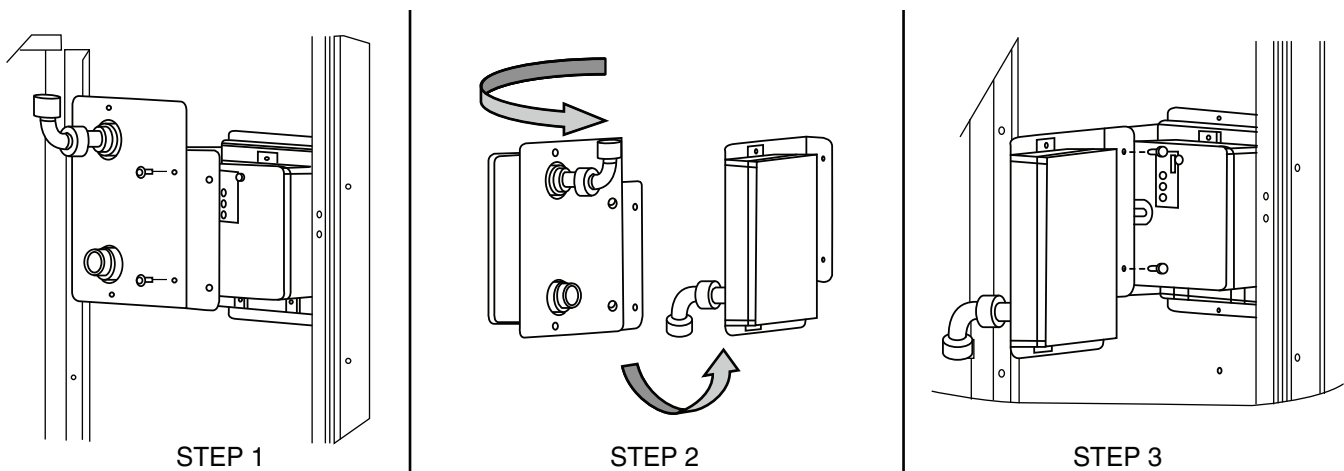

Fig. 58 — Completing Installation of Return Air Smoke Sensor
1. Unscrew the two screws holding the Return Air Smoke Detector assembly. See Fig. 58, Step 1. Save the screws.
2. Turn the assembly 90 and then rotate end to end. Make sure that the elbow fitting is pointing down. See Fig. 58, Step 2.
3. Screw the sensor and detector plate into its operating position using screws from Step 1. See Fig. 58, Step 3.